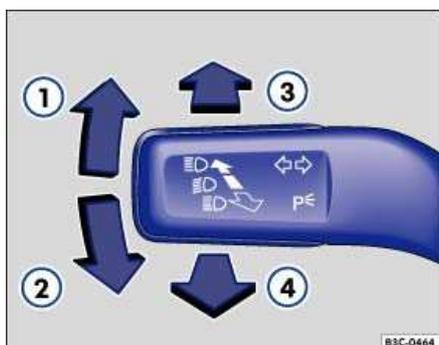

Fig. 37 Turn signal and high-beam switch.
- Move the lever all the way up (1) to signal a **right** turn, or all the way down (2) to signal a **left** turn ⇒ Fig. 37.